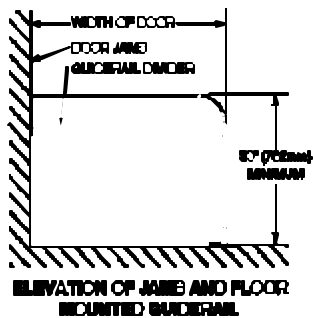

Figure 8
4. Guide Rails. Check that guide rails or other barriers or separators are present (two per swing door side) and firmly anchored. (See Figures 8, 9, 10)